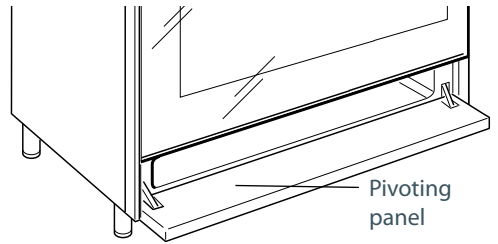

Fig. 10b Opening the pivoting panel
- Open the pivoting panel (Fig. 10b).